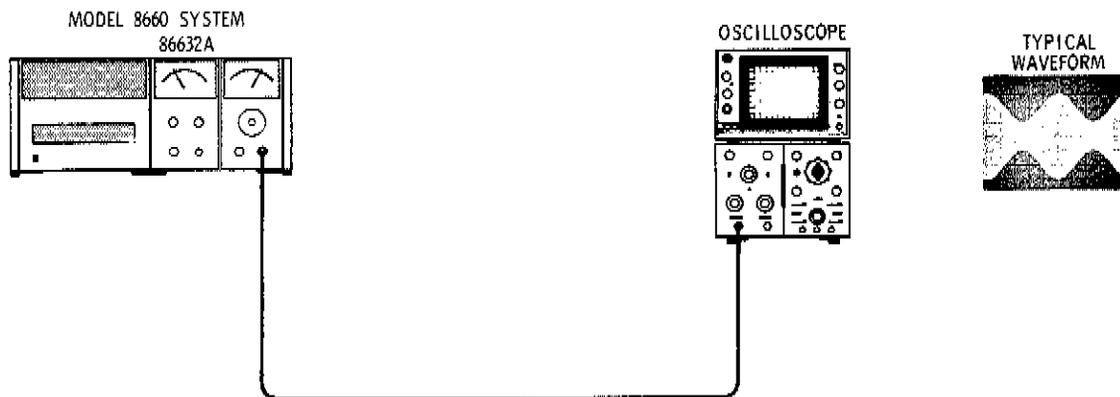

Figure 4-2. Modulation Depth and Meter Accuracy Test Setup
1. Connect the equipment as shown in Figure 4-2.
5. Set the Model 86632A MODE control to AM and the SOURCE control to INTERNAL 1000. Adjust the MODULATION LEVEL control for 2 divisions between peak and valley of the AM envelope display on the oscilloscope. See Figure 4-2 for a typical waveform.
7. Adjust the Model 86632A MODULATION LEVEL control until the AM envelope displayed on the oscilloscope shows 2 divisions between peak and valley. See Figure 4-2 and verify that the meter reading is between 45 and 55%.